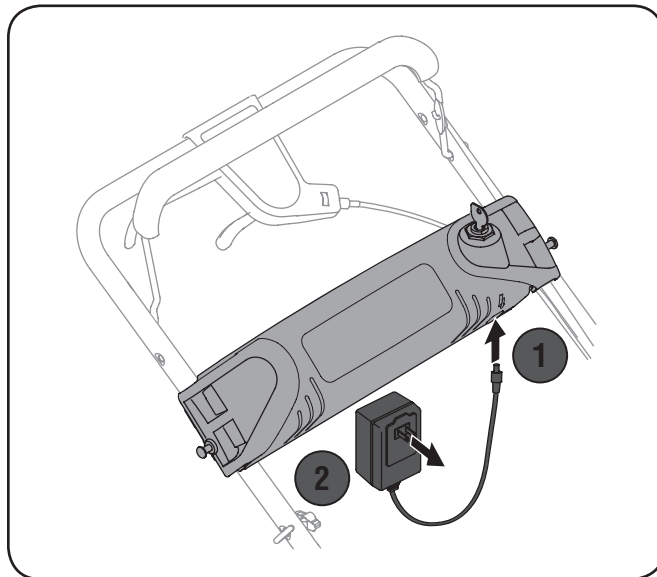

Figure 7-4
1. Plug the battery charger into the port on the underside of the battery housing. See Figure 7-4.